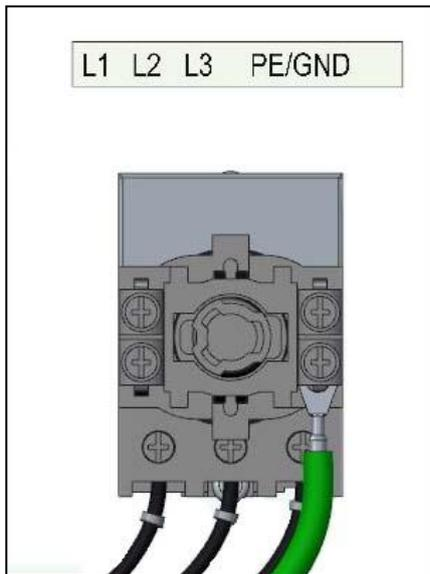
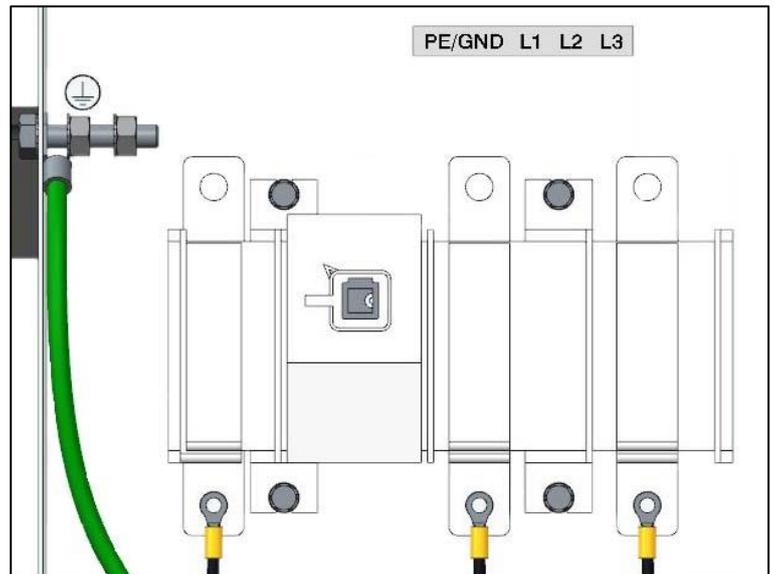

Fig. 5.4
Fig. 5.5
- Connect the power supply cable to the terminals of the breaker switch. (Fig. 5.4: Models with gas and steam heating; Fig. 5.5: Models with electric heating).